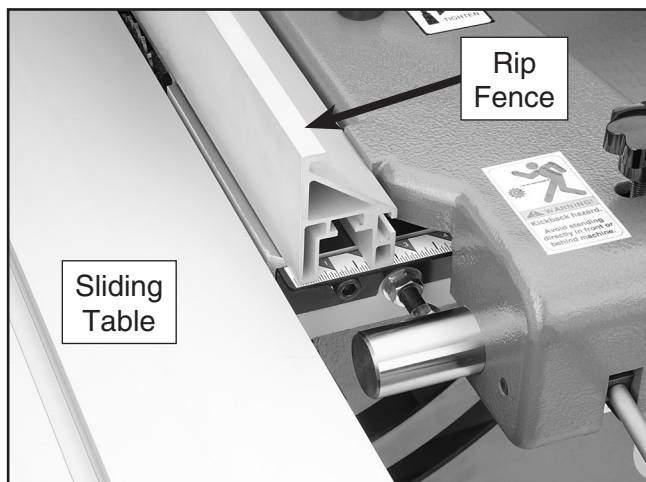

Figure 30. Aligning the fence with the edge of the sliding table.
9. Adjust the nuts on the outside of the table until the edge of the rip fence is parallel with the sliding table as shown in **Figure 30**.